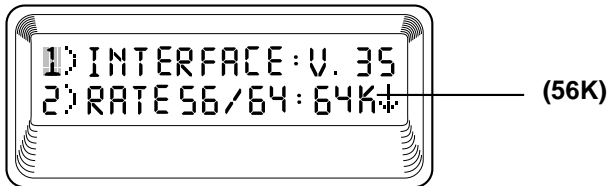

Figure 4-14
Using the same operational methods as before, select item 2)RATE to change from 64K mode to 56K mode (see Figure 4-14).